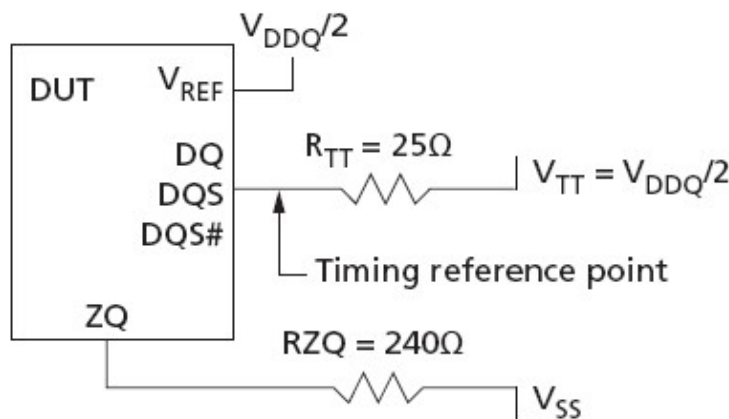

Figure 4-18: Reference Output Load for AC Timing and Output Slew Rate
- See Figure 4-18 for the test load configuration.
3. See Figure 4-18 for the test load configuration.
2. See Figure 4-18 for the test load configuration.
Figure 4-18 represents the effective reference load of 25Ω used in defining the relevant device AC timing parameters (except ODT reference timing) as well as the output slew rate measurements. It is not intended to be a precise representation of a particular system environment or a depiction of the actual load presented by a production tester. System designers should use IBIS or other simulation tools to correlate the timing reference load to a system environment.